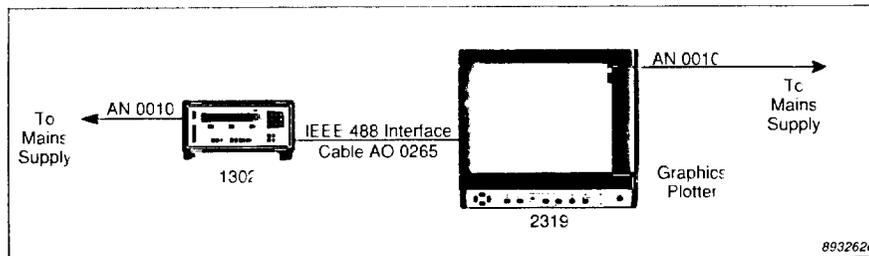

Fig. 12.1. Connecting the Graphics Plotter Type 2319 to Type 1302
Tools and Equipment Required (see Fig. 12.1)
Step 8. (see Fig. 12.1)